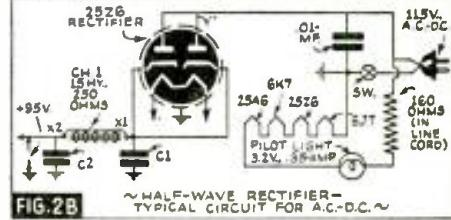

FIG. 2B ~ HALF-WAVE RECTIFIER - TYPICAL CIRCUIT FOR A.C.-D.C. ~
- (b) Transformerless, A.C.-D.C. system, with series filaments and a rectifier; see Fig. 2B.